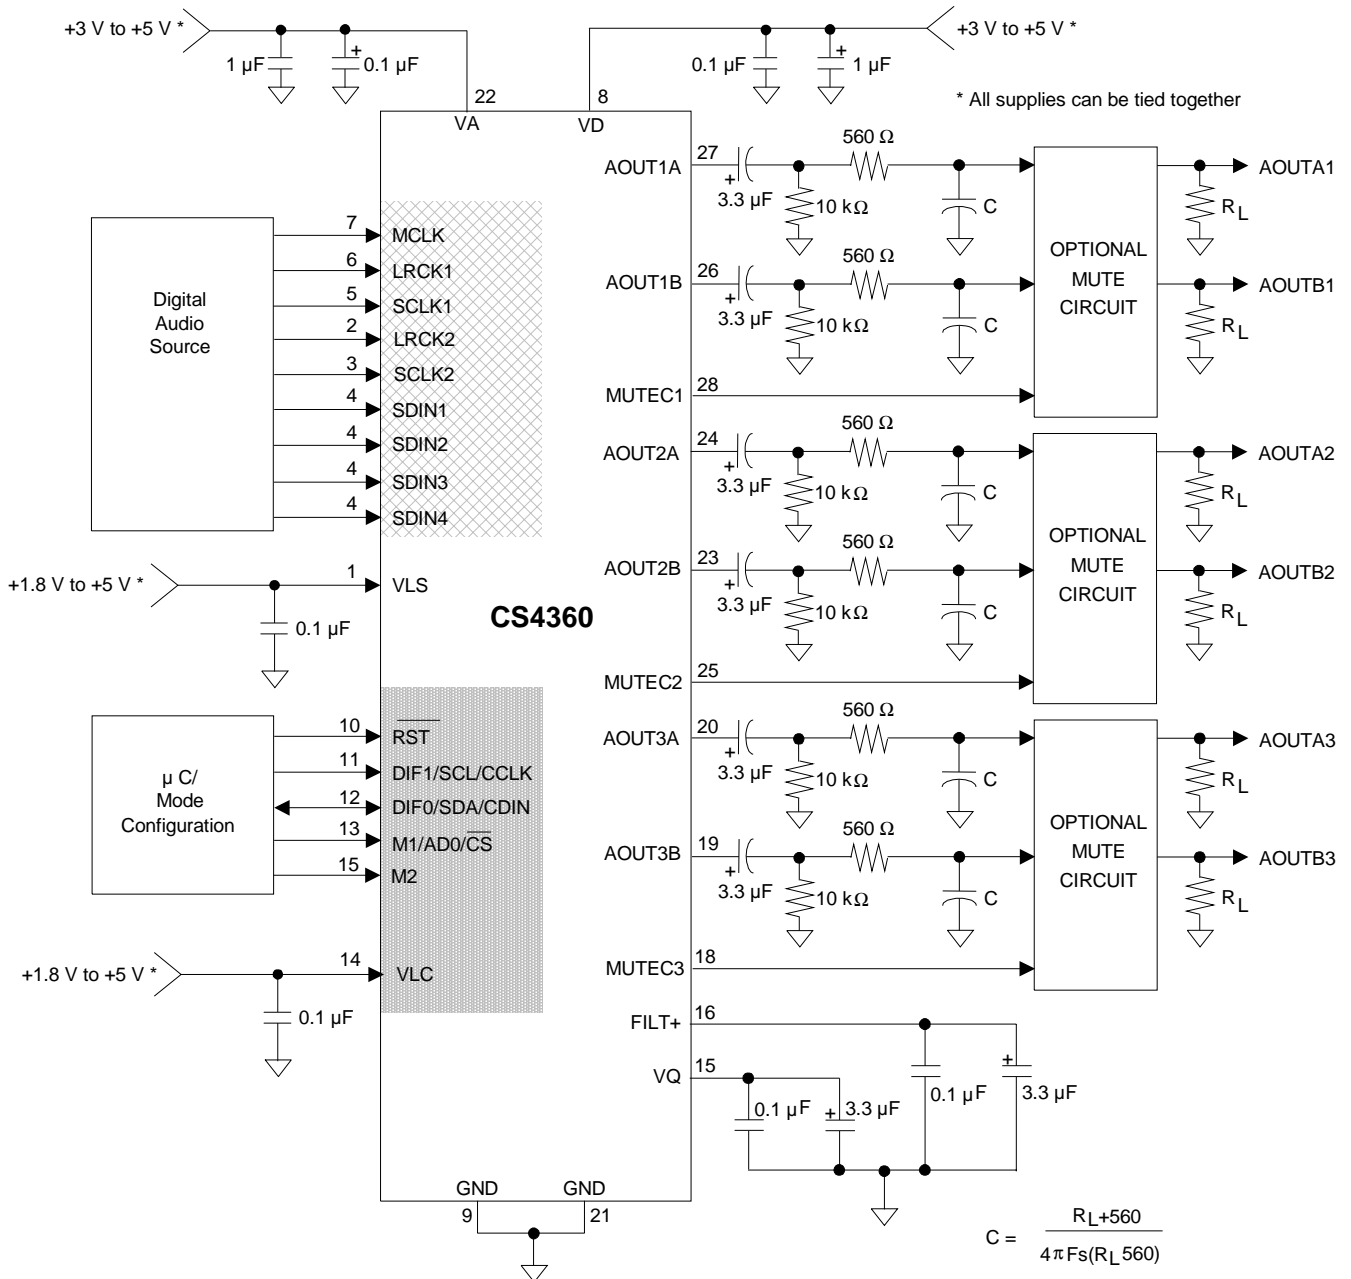

Figure 4. Typical Connection Diagram
12. Valid with the recommended capacitor values on FILT+ and V_{CM} as shown in Figure 4.